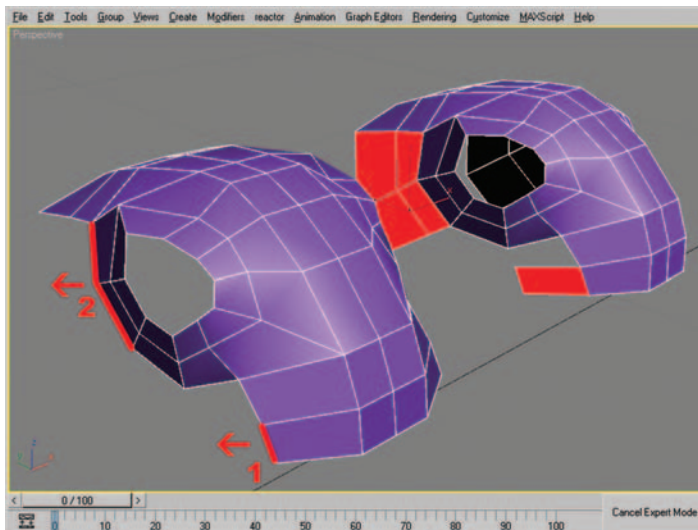

Figure 9.17 Two separate edge selections and the resulting polygons after performing shift-drag.
17. It's time to shift-drag some edges. To speed up the process I am going to show you two separate edge selections and the resulting new polygons created when we shift-drag them. Perform a shift-drag on edge selection 1 first (Figure 9.17). Next perform two shift-drags on edge selection 2 to create the new polygons shown.